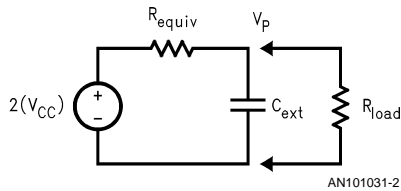
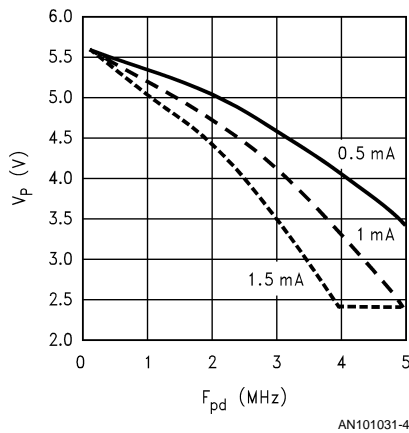

FIGURE 2. Voltage Doubler Switched Capacitor Realization Equivalent
FIGURE 3. Steady State V_P vs. F_{pd} ($\text{OSC}_{\text{in}} = 10 \text{ MHz}$; $V_{\text{CC}} = 3.0\text{V}$)
During the first half of the oscillator cycle switch S1 is closed, S2 is down and S3 is open, as shown in *Figure 1a*. This allows the internal capacitor to charge up to V_{CC} . The second half of the oscillator cycle switch S1 is open, S2 is up, and S3 is closed, as shown in *Figure 1b*. This places the voltage on the internal capacitor in series with the supply voltage. Charge is redistributed to the external capacitor, C_{ext} . The internal switched capacitor can be ideally represented as a resistor and a voltage source as shown in *Figure 2*.
The steady state voltage loss is the difference between the ideal doubled voltage and the actual steady state V_P voltage. The steady state voltage loss is set by three factors; charge pump current setting, phase detector frequency, and RF oscillator frequency. When the PLL is locked, the charge pump is on for a short period of time every phase detector cycle. Current is required during this on time to operate the charge pump. These bursts of current averaged over the entire phase detector period can be viewed as a constant load, as shown in Figure 2. This load will reduce the voltage doubler's output voltage, V_P . Higher charge pump current settings and higher phase detector frequencies will increase the average load current, decreasing the voltage doubler's output voltage, V_P . However, a higher RF Oscillator Frequency will reduce the switched capacitor equivalent resistance, increasing the voltage doubler's output voltage, V_P . Figure 3 plots the LMX2350 steady state V_P voltage versus phase detector frequency, F_{pd} , for three charge pump current settings when the RF Oscillator Frequency is 10 MHz and V_{CC} set to 3.0V.
The amount of time it takes the voltage doubler to charge the external capacitor can be determined using the simple RC time constant from Figure 2. Where C is the external capacitor and R is the switched capacitor equivalent resistance, found using Equation (1). The LMX2350 has an internal capacitor of 36 pF (picofarads). Equation (5) calculates the time required for the external capacitor to charge to 98% of its maximum voltage.